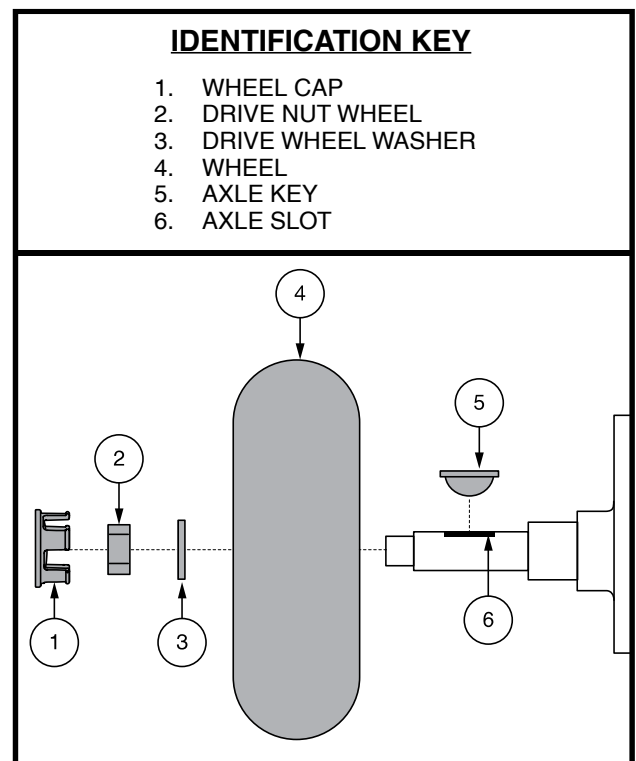

Figure 31. Wheel Removal
3. Remove the wheel cap, drive wheel nut and washer from the axle. See figure 31.
4. Remove the drive wheel nut and washer from the axle. **See figure 31.**
9. Slide the wheel back onto the axle. Make sure that the axle key is in the axle slot. **See figure 31.**